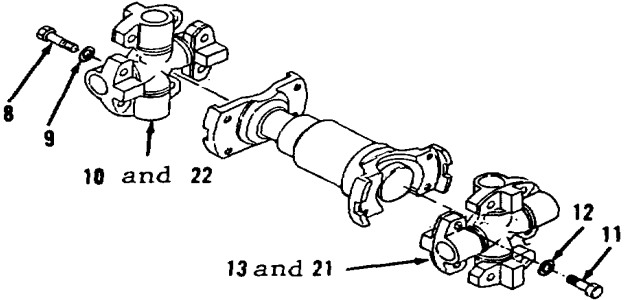

Figure 10-2
7. Install items 21 and 13 as an assembly, four washers (12) and bolts (11, Figure 10-2). Tighten four bolts (11) to 35 to 45 ft-lb.
8. Install items 22 and 10 as an assembly, four washers (9) and bolts (8). Tighten four bolts (8) to 35 to 45 ft-lb.